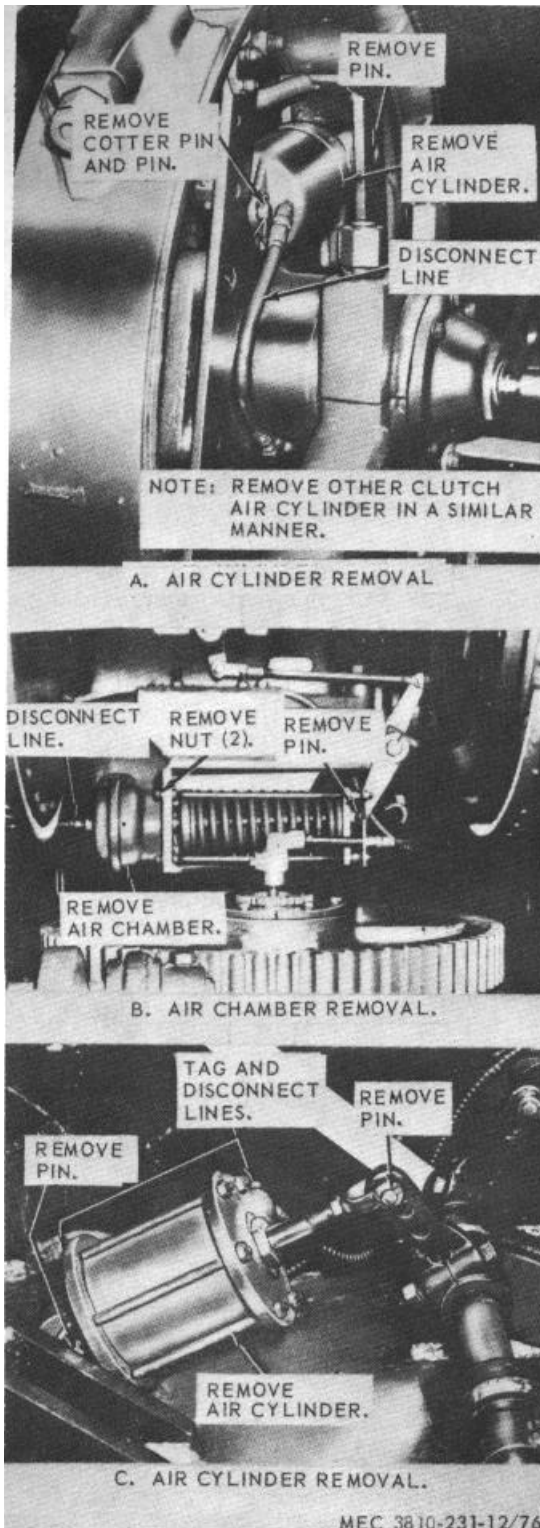

Figure 76. Air cylinder and air chamber assemblies, removal and installation.
- a. *Removal.* Remove the air cylinder assembly as instructed on figure 76.
- (1) Clean exterior with a cloth dampened with an approved cleaning solvent and dry thoroughly.
- (2) Inspect for cracks, breaks, and other damage. Replace a damaged or defective air cylinder.
- c. *Installation.* Install air cylinder as instructed on figure 76.
- a. *Removal.* Remove air chamber assembly as instructed on figure 76.
- (2) Inspect for cracks, breaks, and other damage. Replace a damaged or defective air chamber.
- c. *Installation.* Install the air chamber assembly as instructed on figure 76.